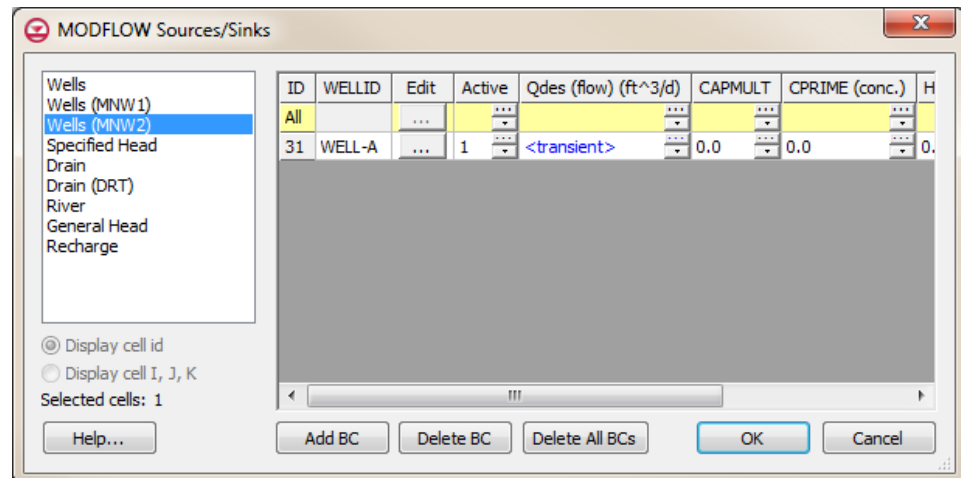

Figure 11 Sources/Sinks dialog
- Right-click on the selected cell and select **Sources/Sinks...** to bring up the *MODFLOW Source/Sinks* dialog (Figure 11).